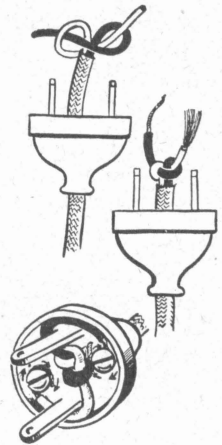

Fig. 13
1. Pass cord through cap. Fig. 13.
2. Follow steps indicated in Figure 13 and make knot.
4. Remove  $\frac{1}{2}$ -inch of rubber insulation. Fig. 13.
6. Connect wire around screw in direction in which screw tightens. Fig. 13.
11. Inspect convenience outlet plug at other end of cord, and test connections. Figures 13 and 6.